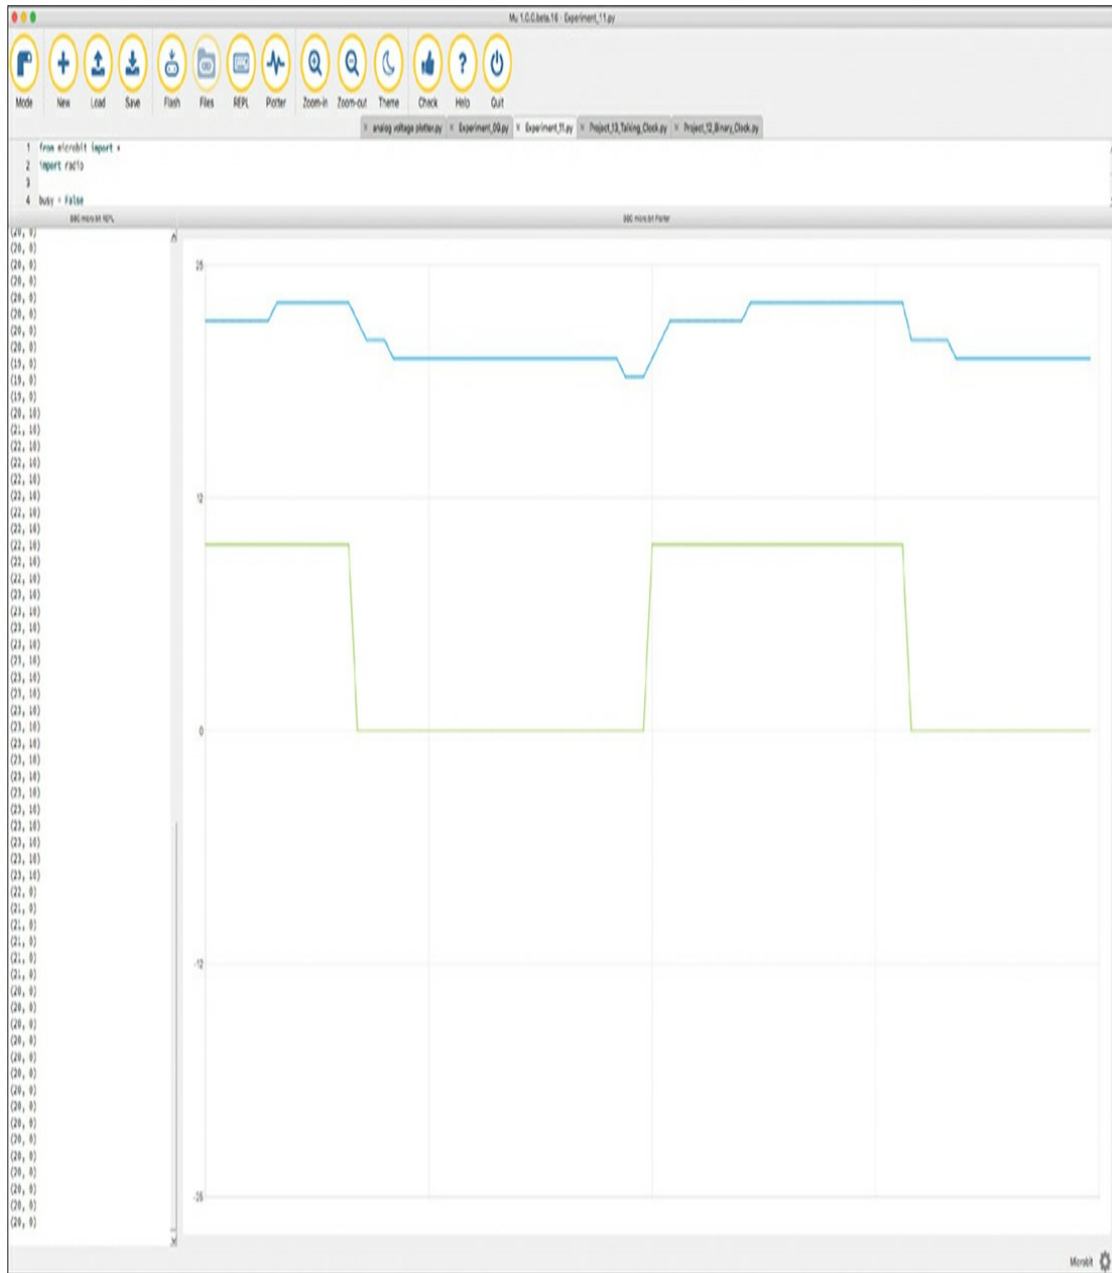

Figure 9-1: Plotting temperature readings and processor activity
2. Open both the REPL and Plotter views of Mu and press **Reset** on the micro:bit to start the reading process. A new temperature reading, and an indication as to whether the micro:bit has been busy or idle, are logged to the Plotter and REPL every 20 seconds. The busy/idle status of the micro:bit flips every 10 minutes. Figure 9-1 shows the result of logging the data for 40 minutes.
As you can see from Figure 9-1, when the micro:bit is in busy
To easily see when the processor is busy on the same plot as the temperature (Figure 9-1), we multiply the True or False Boolean value of busy by 10. Python allows us to do this! Rather than reporting an error, Python interprets False as 0 and True as 1. Because Python treats the Boolean values as numbers, it lets us multiply them. Then, instead of being either 0 or 1, the value is plotted as either 0 or 10.